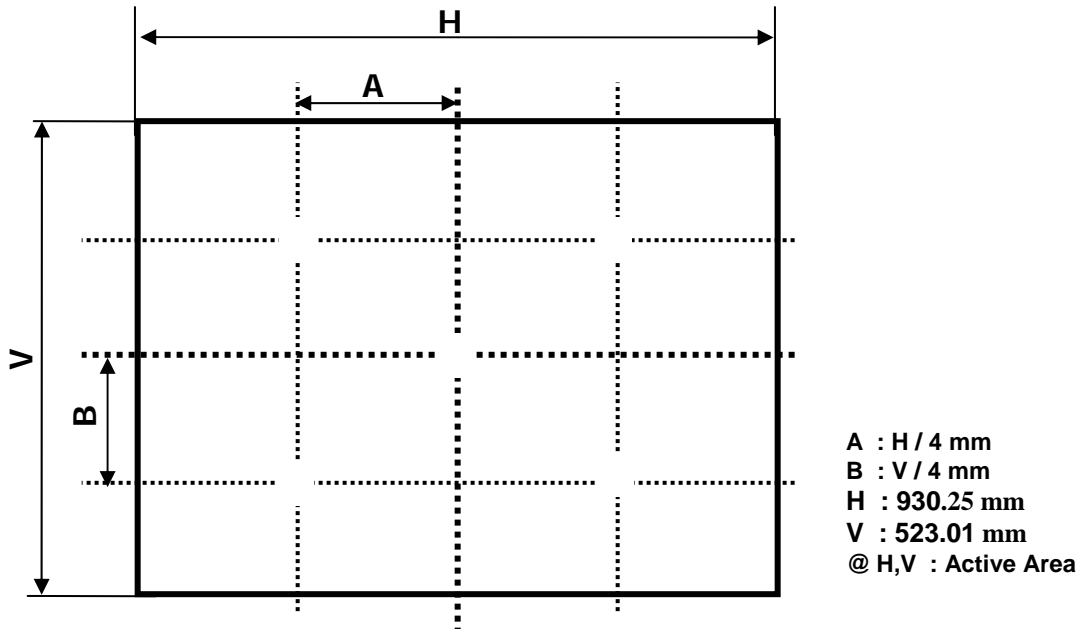

FIG. 2 Measure Point for Luminance
2. Surface Luminance(L_{WH}) is the luminance value at center 1-point across the LCD surface 50cm from the surface with all pixels displaying white. For more information see the FIG. 2. The luminance is determined by taking the average of 10 measurements.
For more information, see FIG 2.